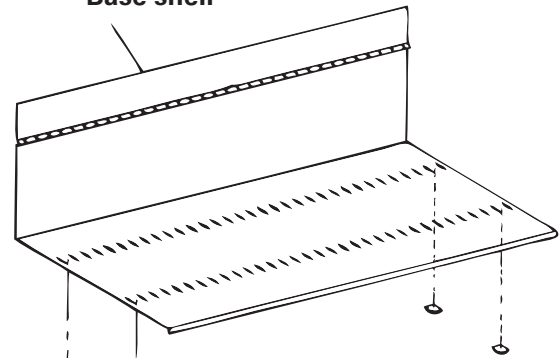

Figure 1
1. Attach bumpers to each corner of the underside of base shelf (see figure 1).